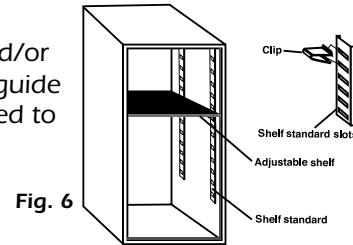

Fig. 6
1. Remove shelves, gunrack and (12) shelf support clips from protective wrapping.
2. Each shelf will require (4) support clips.
3. Determine the desired location of your shelf and/or gun rack and note the corresponding support guide slots on the vertical standards that are best suited to support the shelf in that location. (Fig. 6)